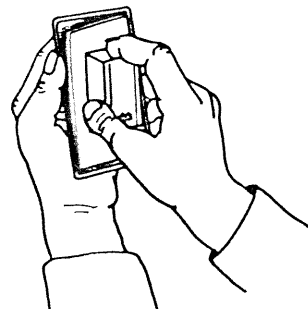

Figure 1.
Holding the base with one hand, bend the upper left-hand edge of the mounting plate downward with the thumb and forefinger of the other hand to separate the base from the mounting plate in that area. See Figure 1. Do the same for the lower left-hand edge, and then detach the base.
1. Separate the base from the mounting plate, as shown in Figure 1.